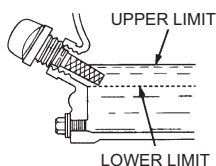

Figure 5. Engine Oil Level
4. If the oil level is low (Figure 5), fill to the edge of the oil filler hole with the recommended oil type (Table 4). Maximum oil capacity is 0.85 quart.